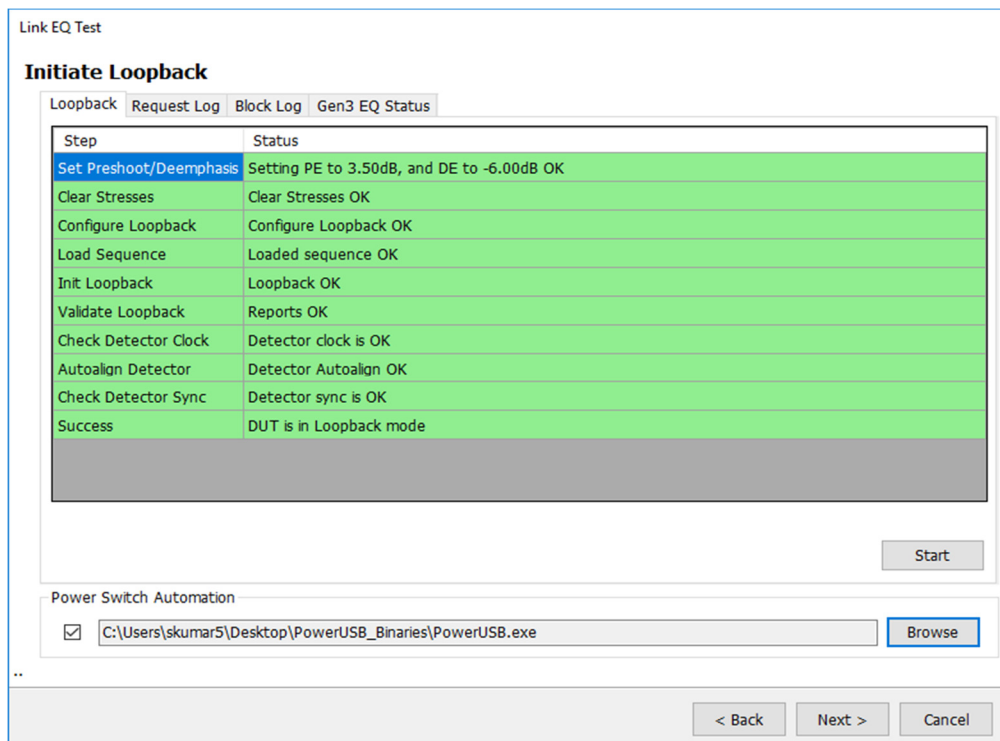

Figure 42
4. Enable the Power Switch Automation and load the Script .exe file which will Power ON the DUT during loopback as shown in Figure 42.